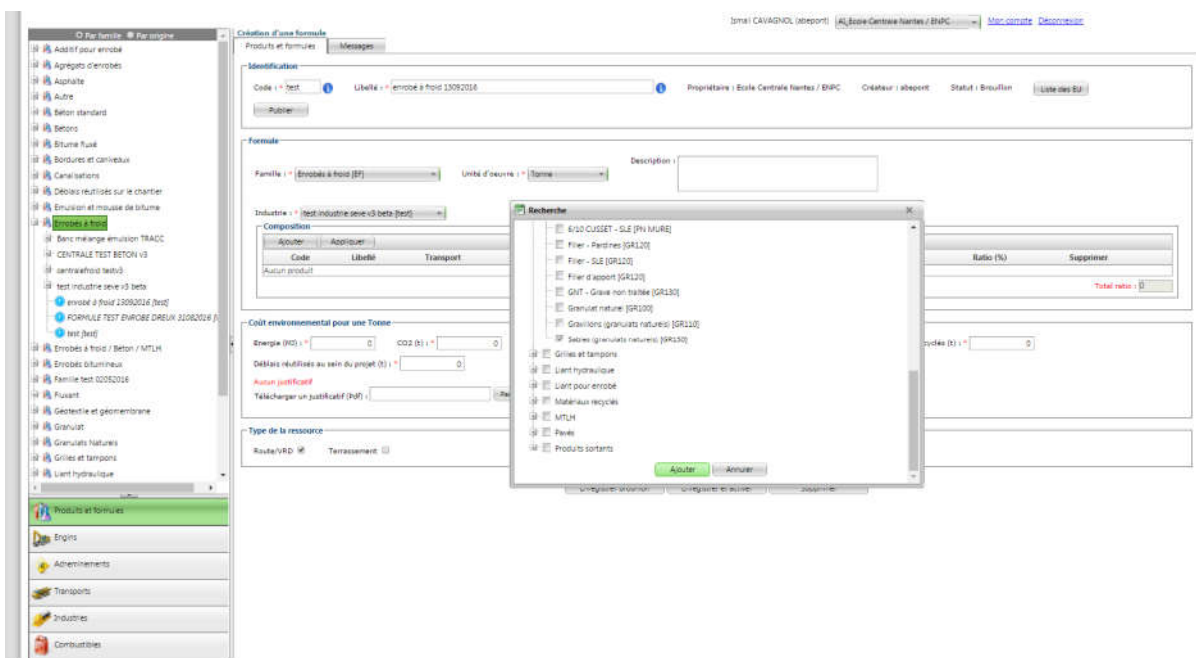

Figure 30 – Insertion of the different products composing the asphalt formula
- 5- Choose the station where the formula is manufactured (Figure 30)